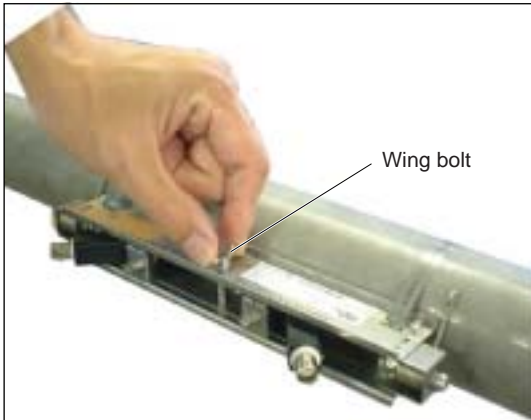

Fig. 3-19
- (1) Loosen the wing bolt located at the middle of frame by 3 to 4 turns (Fig. 3-19).